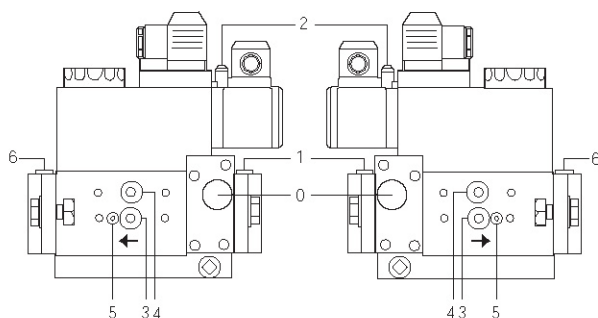
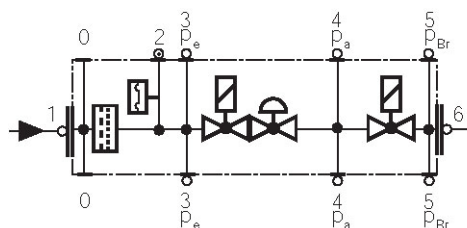

Fig. 22
Fig. 23
- Change the filter if the pressure difference between pressure connection 1 and 3 (Fig. 22-Fig. 23) is $\Delta p > 10$ mbar.
- Change the filter if the pressure difference between pressure connection 1 and 3 (Fig. 22-Fig. 23) is twice as high compared to the last check.